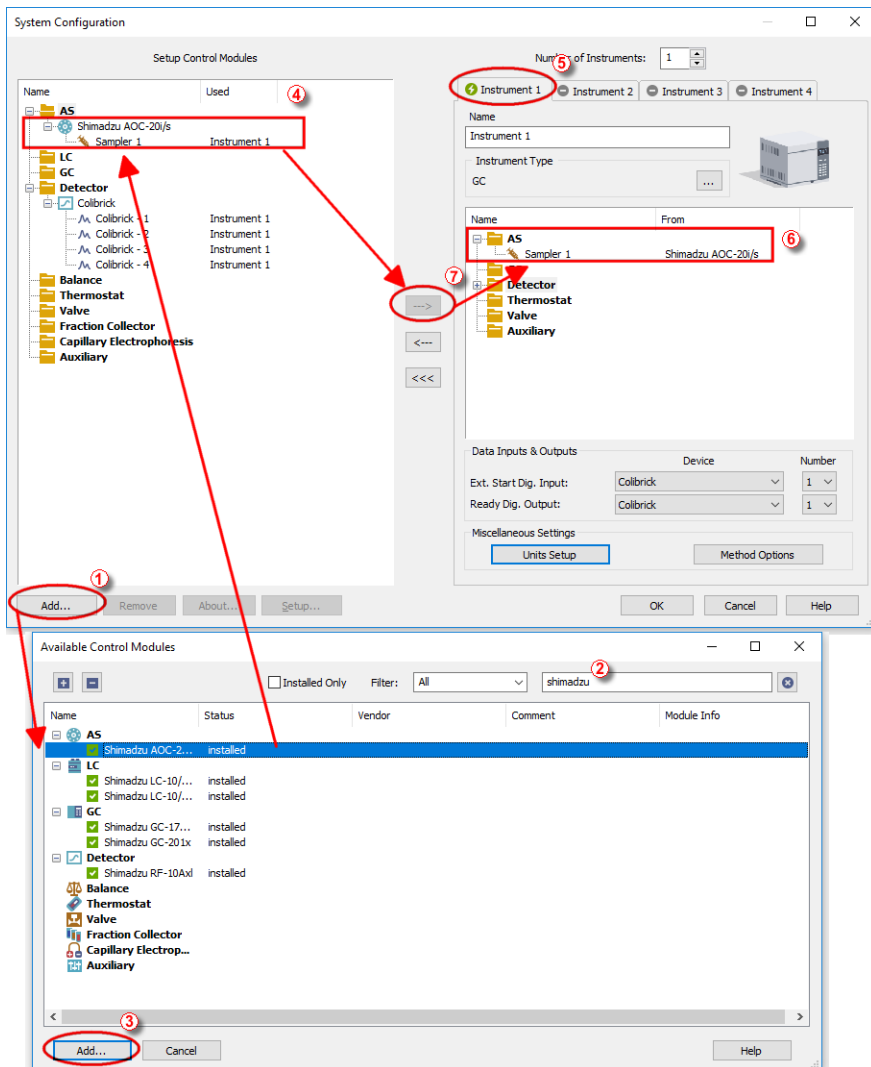

Fig 4: How to add Shimadzu AOC-20
- Press the *Add* button ① (see **Fig 4** on pg **5**.) to invoke the **Available Control Modules** dialog.
- You can specify the searching filter ② to simplify the finding of the driver.
- Select the **AOC-20** sampler and press the *Add* ③ button.